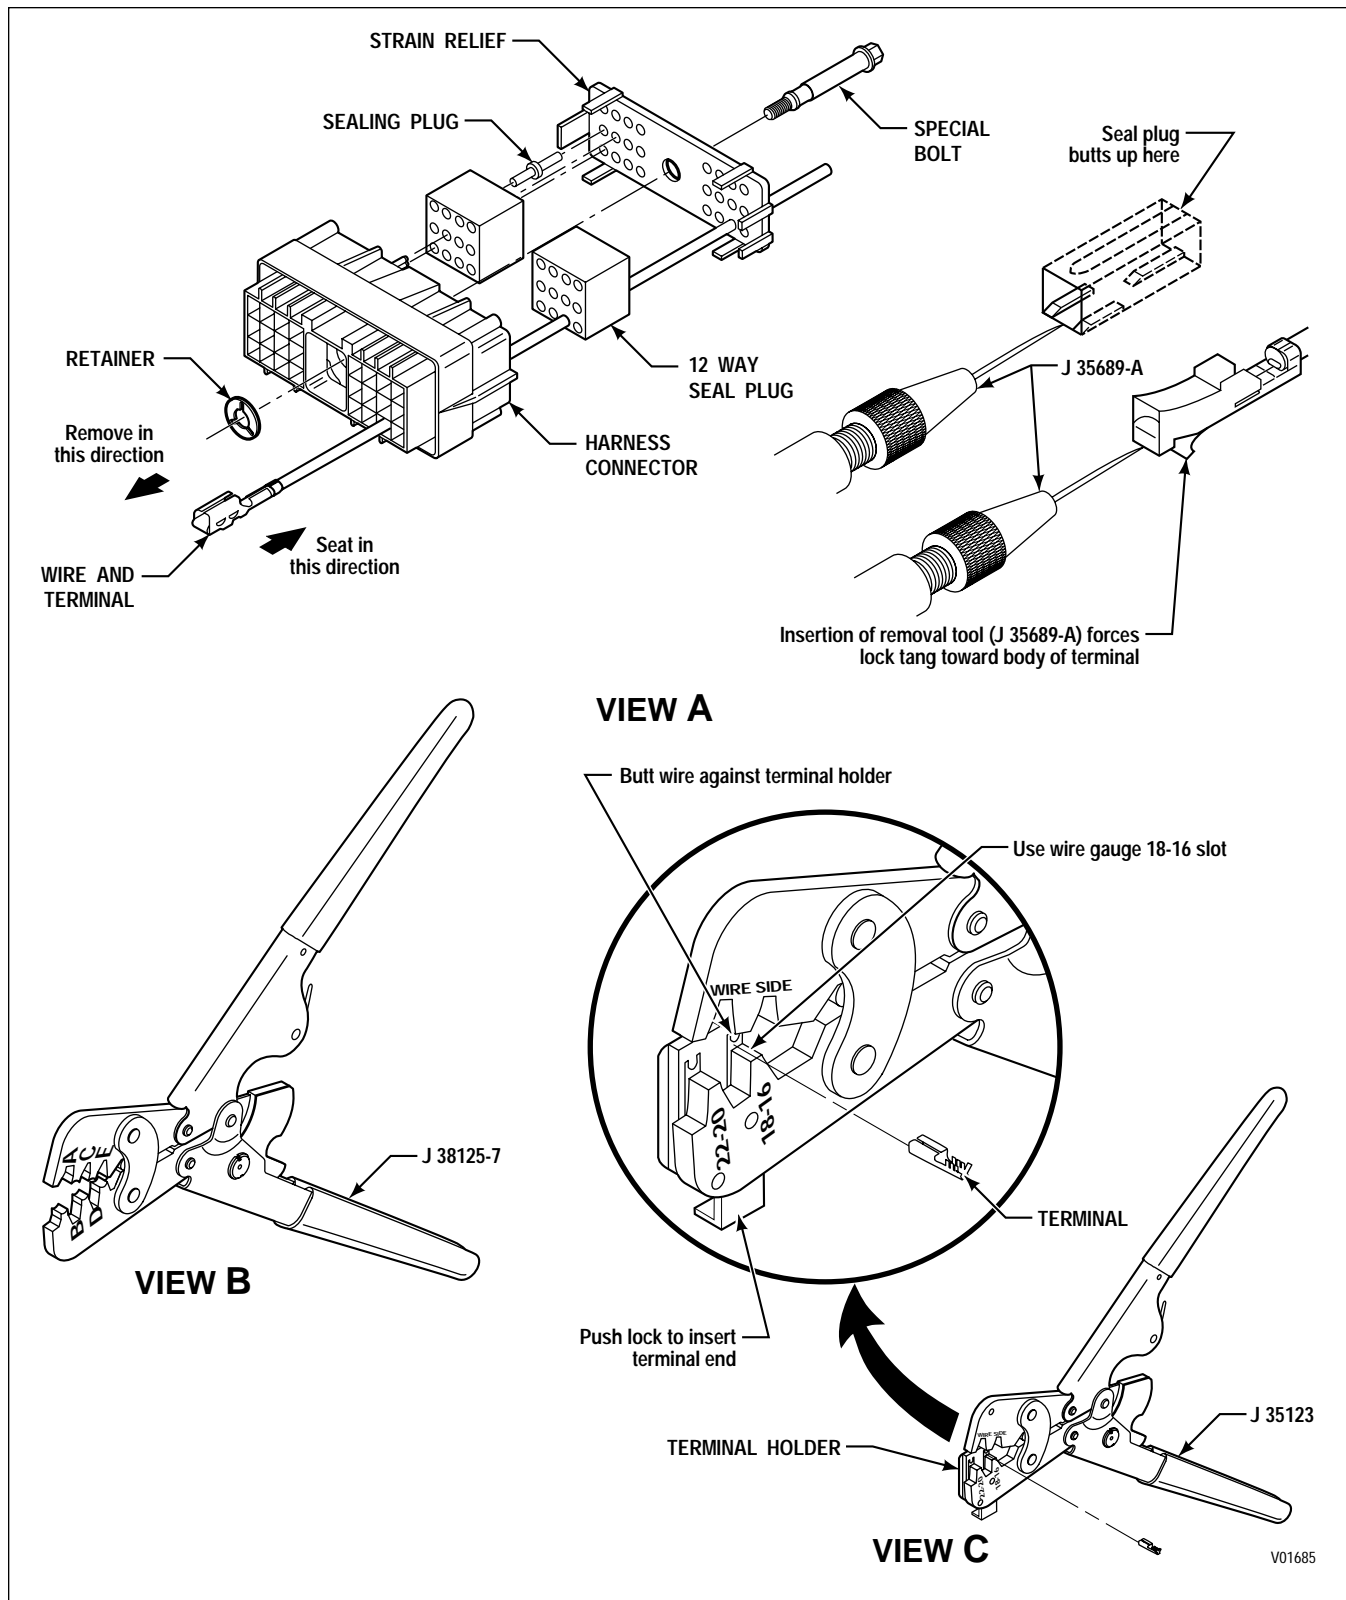

Figure E-2. Delphi-Packard Metri-Pack 150 Series Connectors — Pull-to-Seat (Speed Sensor; Accumulator Solenoid; Retarder Solenoid, TID 2; 30-Way and 18-Way VIM)
1. Insert needle end of terminal remover J 35689-A into the small notch between the connector and the terminal to be removed (Figure E-2, View A). Push the lock tang toward the terminal.